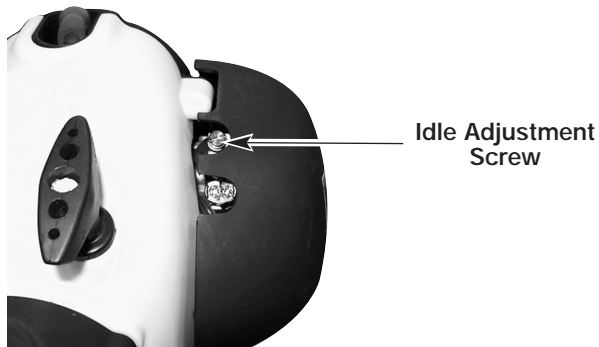

Fig. 29
1. Locate the idle adjustment screw on the carburetor (Fig. 29).